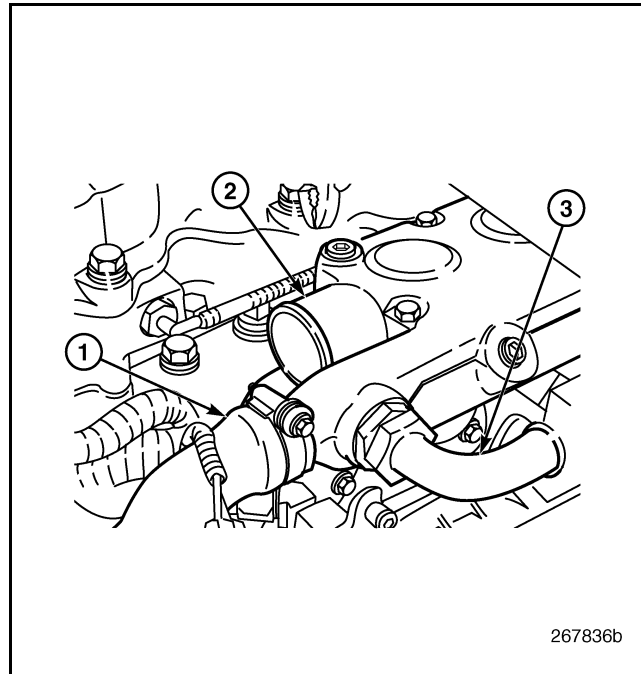

Figure 465 — Thermostat Housing Hose Connections
2. Loosen the hose clamps and disconnect the bypass and radiator hoses at the front of the thermostat housing (Figure 465).